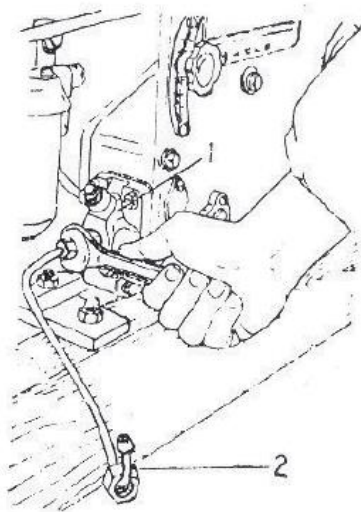

Fig. 11- Virar o tubo de combustível de alta pressão com sua ponta aberta para cima
2. Loosen the nut connecting the high pressure fuel line to the injection pump, rotate the tube so that the open side of the tube is up, and retighten the nut as shown in Fig.11. Then prime the injection pump until the high pressure fuel line becomes full of fuel. 3. Turn the flywheel slowly until the fuel begins to flow out through the pipe stub. Stop turning and check that the line of the injection timing mark on the steering wheel periphery coincides with the mark line on the radiator. If the injection timing is too advanced or too late, then adjustment is necessary and should be performed according to the following procedure.